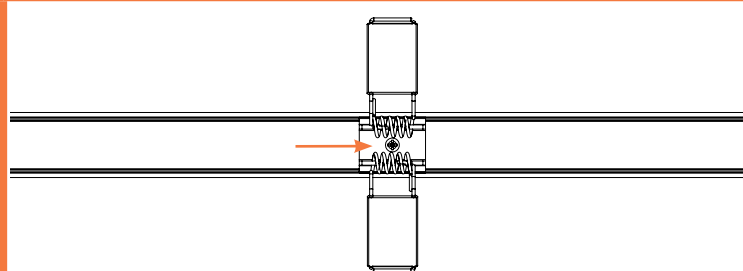

Figure 6b
- Secure the Clips Using Set Screws (Figure 6b)